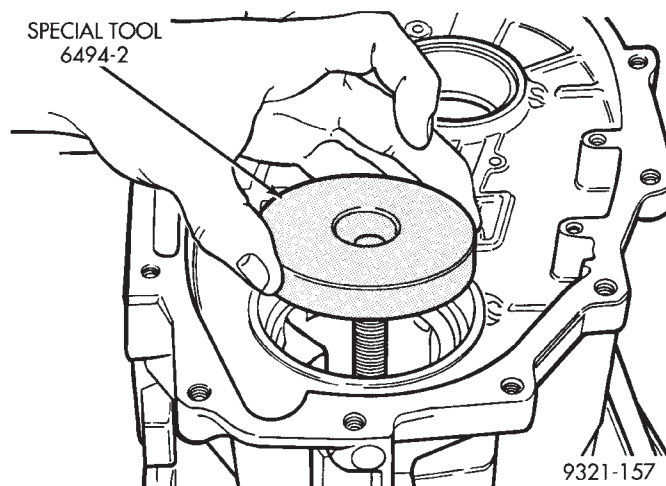

Fig. 254 Disc Installation
(5) Install centering disc (special tool 6494-2) onto gauge disc rod (Fig. 254).